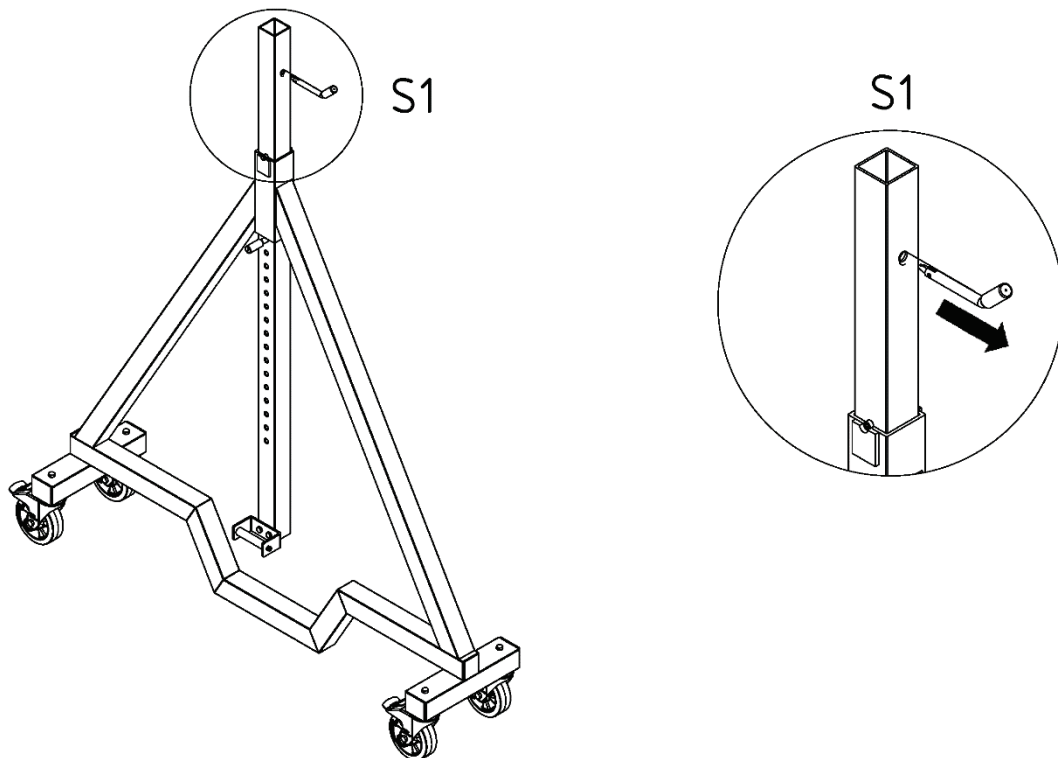

Fig. 1
- 7.1 Remove the carrier safety bolts of the Side frame with plug-in support as shown in figs. 1 and 2.